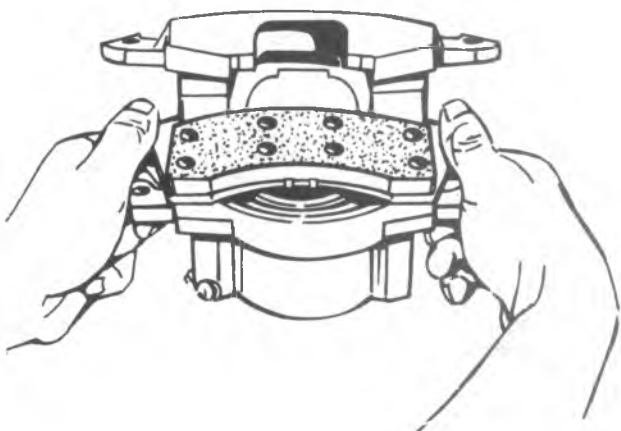

Fig.5-27--Installing Inboard Shoe
4. Position the inboard shoe and lining assembly (with spring attached) in the caliper so that the ear end of the shoe and lining is down and the bottom end up at an angle with the spring resting on the piston I.D. (fig. 5-27). Press down on both ends of the shoe until the shoe is in a flat position, resting on the piston. The spring end of the inboard shoe support spring should be resting on the I.D. of the piston.